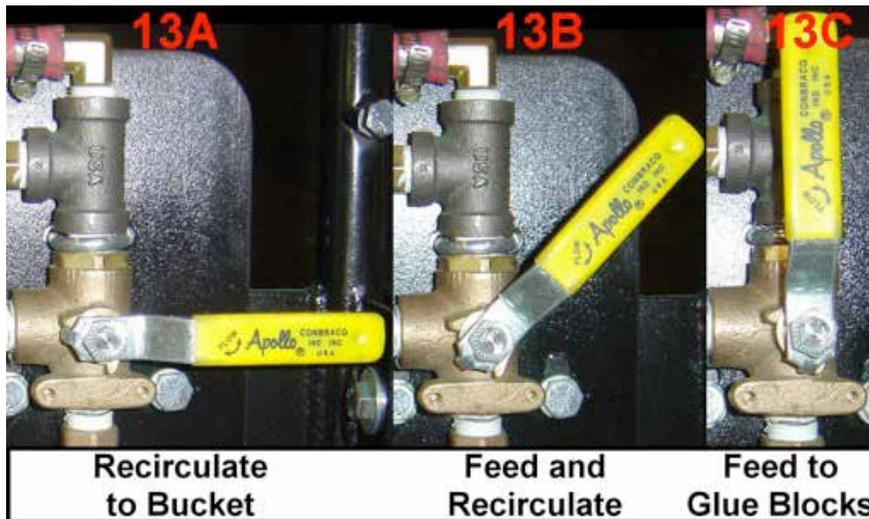

Figure 13 Glue System Operation
2. As shown in Figure 13, the glue can:
4. Turn the glue control valve to position 13A (Figure 13) to recirculate the glue to the bucket.
7. Turn the glue control valve to position 13C (Figure 13) to feed the glue blocks. Apply glue to approximately 90° of the compression blade. Disengage the drive system. If the glue and drive systems are working properly, a bead of lubricant will be present on compression blades. Use the gate valve (15B) to adjust flow rate.